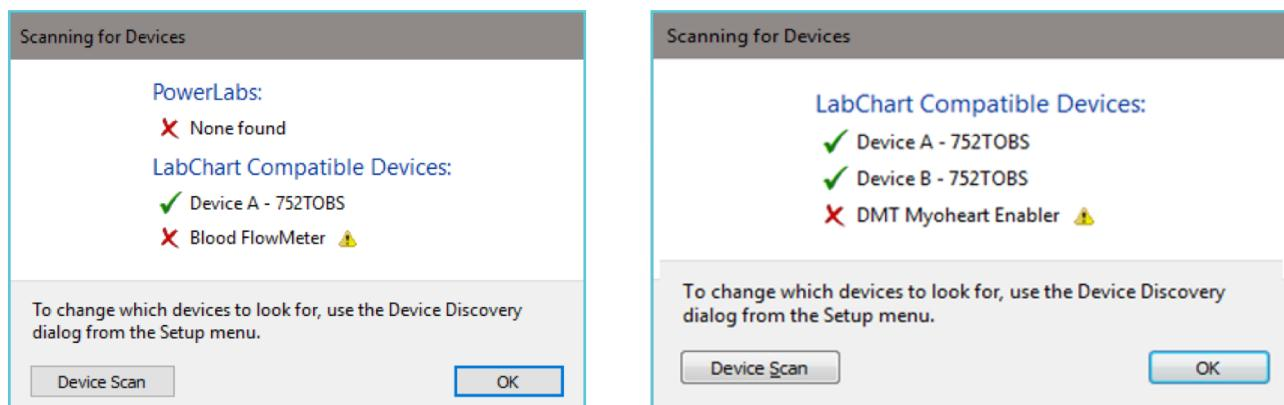

Figure 81A-81B. Labchart will find the 750TOBS systems connected to the computer.
6. Start Labchart 8 Pro. Labchart will now search for a 750TOBS system (figure 81A) and if two 750TOBS system is connected to the same computer then Labchart will find both system (figure 81B).